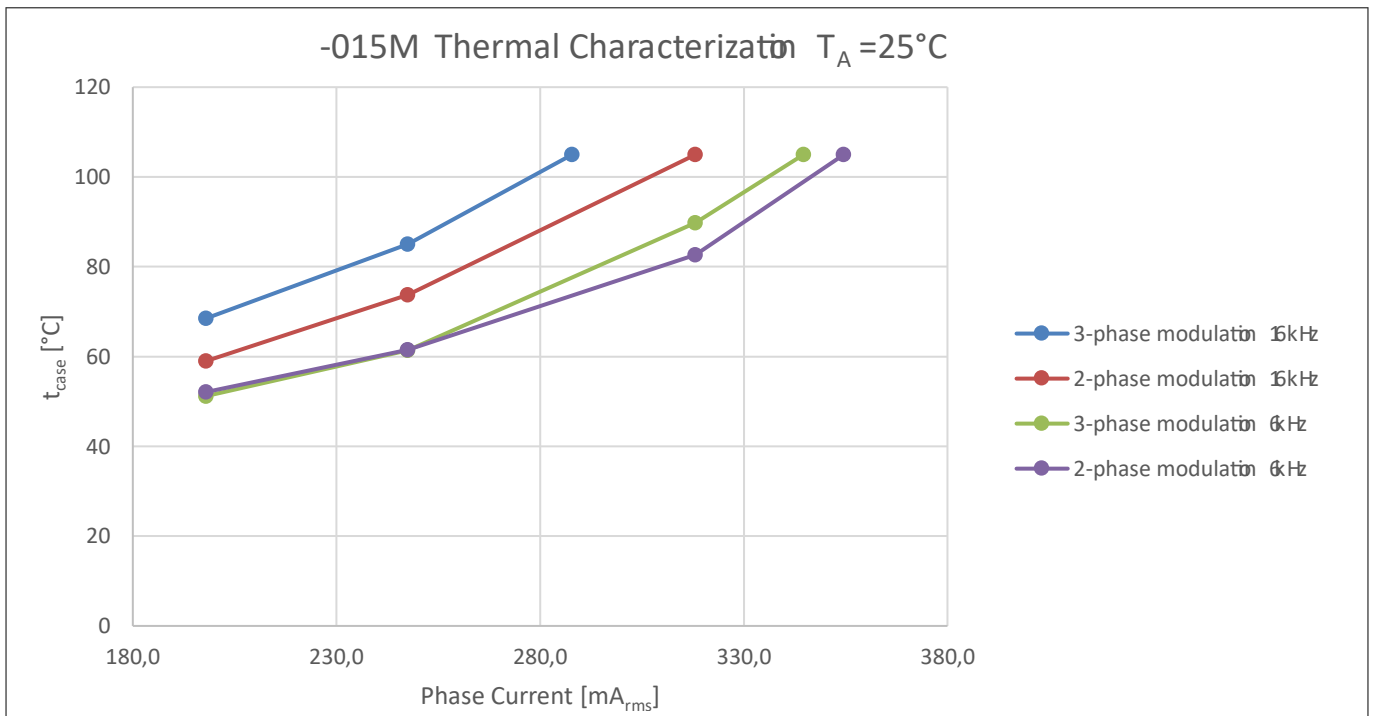
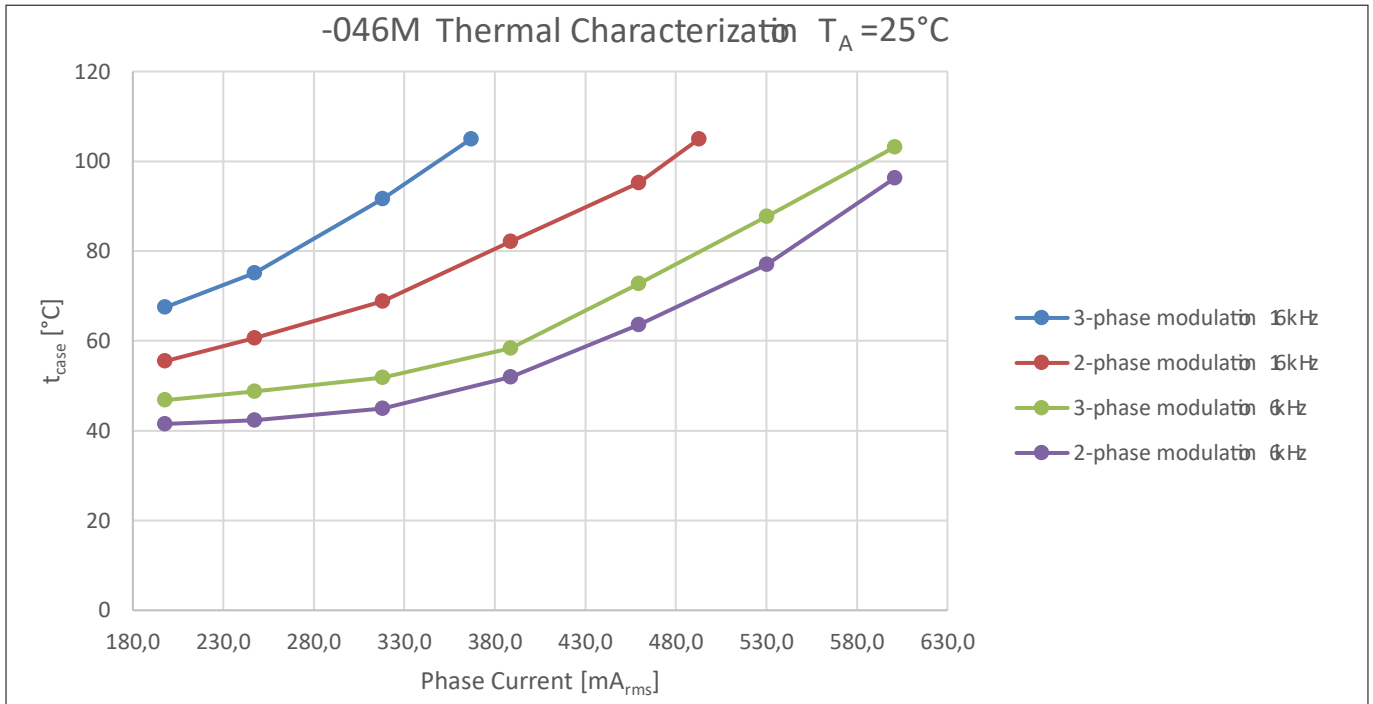
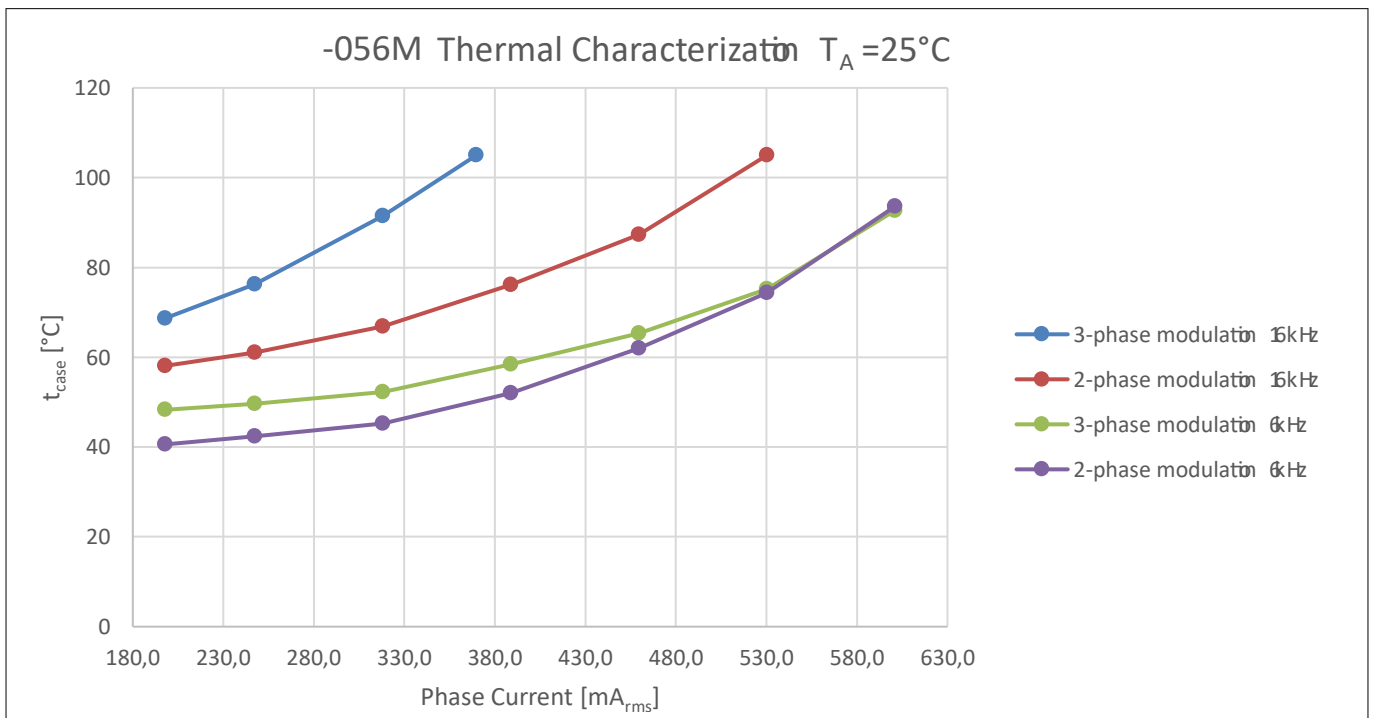

Figure 18 IMM100T-015M thermal characterization, $T_A = 25^\circ\text{C}$, different phase current values until the case reaches 105°C , FR4 PCB with 2oz copper
Figure 19 IMM100T-046M thermal characterization, $T_A = 25^\circ\text{C}$, different phase current values until the case reaches 105°C , FR4 PCB with 2oz copper
Figure 20 IMM100T-056M thermal characterization, $T_A = 25^\circ\text{C}$, different phase current values until the case reaches 105°C , FR4 PCB with 2oz copper
- Figure 18, Figure 19, Figure 20: $T_A = 25^\circ\text{C}$